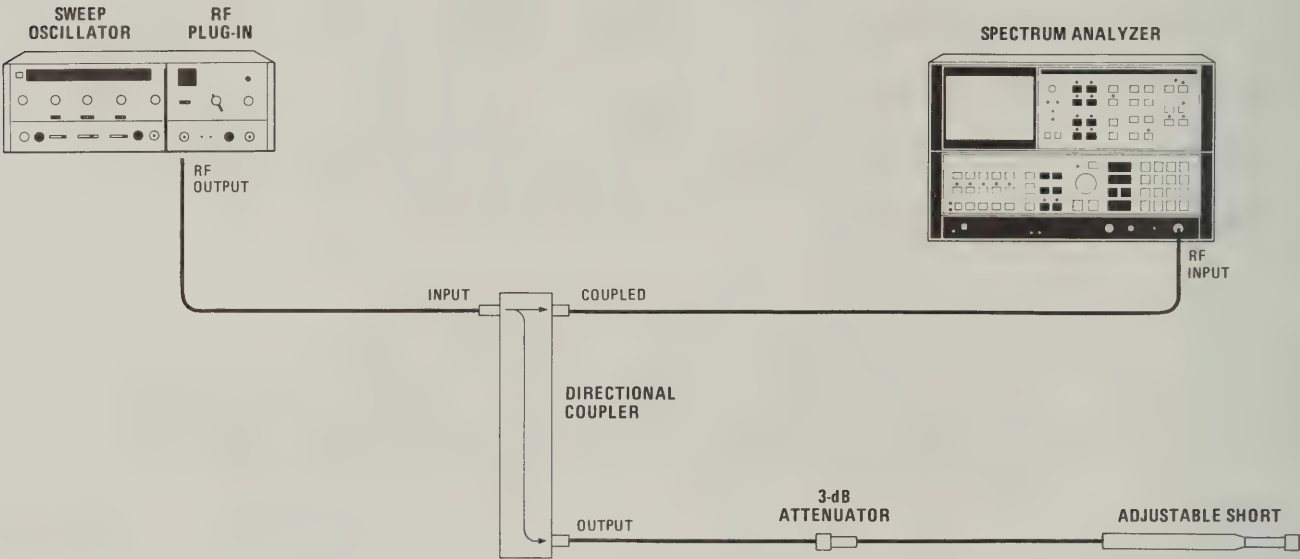

Figure 4-4. 3:1 Load SWR Test Setup
k. Connect equipment as shown in Figure 4-4. Allow 30 minutes warm-up time. Set controls as follows: